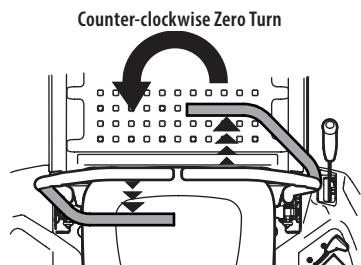

Figure 29
- To turn counter-clockwise, move the lapbar right drive control lever forward while simultaneously moving the left lapbar drive control lever rearward (Figure 29).